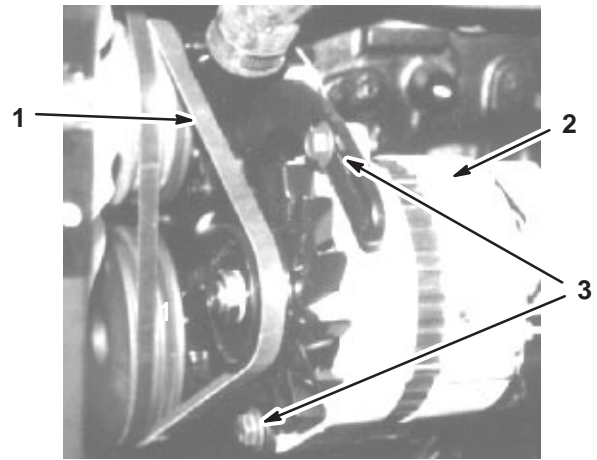

Figure 48
- Alternator belt (Fig. 48)
2. Loosen the alternator mounting bolts (Fig. 48).